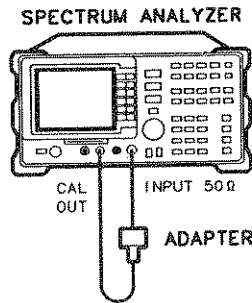

Figure 3-21. Displayed Average Noise Level Test Setup
1. Connect a cable from the CAL OUT to the INPUT 50 Ω of the analyzer as shown in Figure 3-21. *Option 001*: Use a 75 Ω cable and omit the adapter.